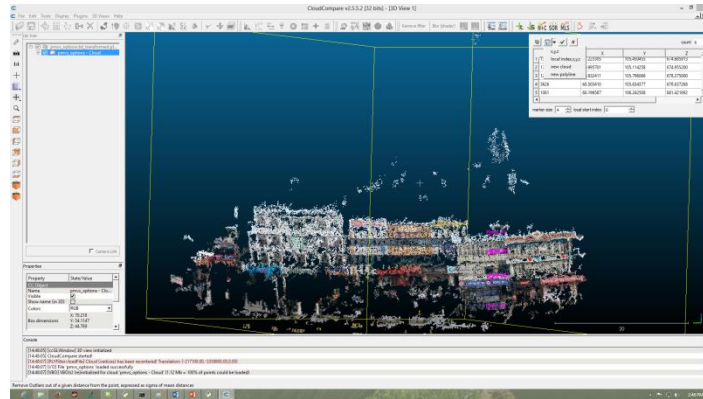

Fig 17: Saving the selected points
- Click on the save button in the coordinates window and select the xyz option (See Fig 17). Save the file by the name 'x.txt' where x is the building number. For example, for first building save it as '1.txt' inside the project folder.